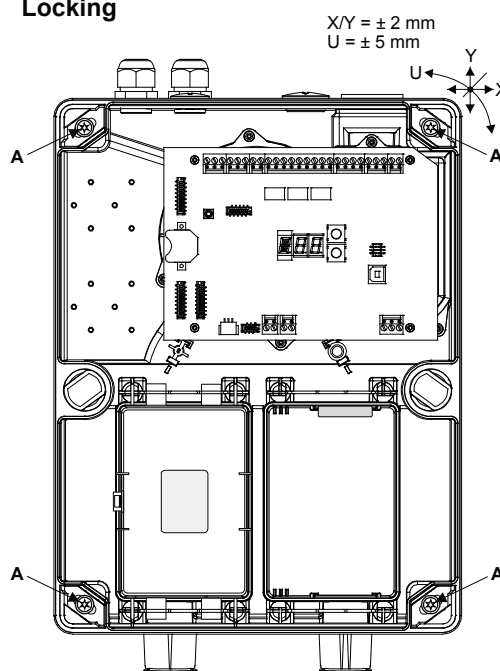

Fig. 16 Open, closing and securing the detector housing
- To actuate the **rotary snap locks**, **press** them **firmly** with the screwdriver towards the housing base and then **turn** through 90°. The position of the lock slit shows the current status (see Fig. 16):